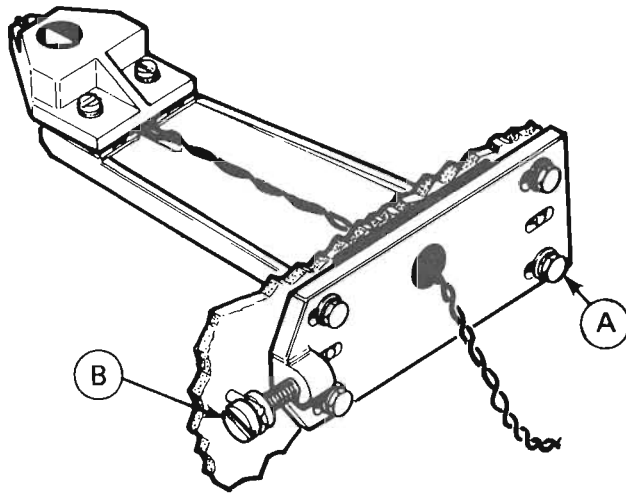

Figure 5-11. UPPER INDEX TRANSDUCER ADJUSTMENT
5. Locate the index transducer base plate, which is screwed to the outside front of the bowl assembly at the centerline. This plate, shown in Figure 5-11, has four hex-head fastening screws ("A") and a slotted-head adjustment screw ("B").